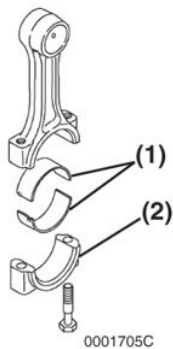

Figure 6-79
4. Install the connecting rod bearing halves (**Figure6-79,(1)**) and connecting rod cap (**Figure6-79,(2)**). Tighten the connecting rod bolts to the specified torque.